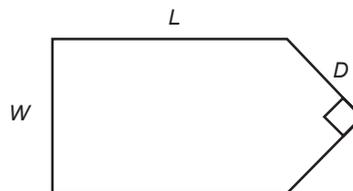

Figure P25
25. A fence around a field is shaped as shown in Figure P25. It consists of a rectangle of length L and width W and a right triangle that is symmetric about the central horizontal axis of the rectangle. Suppose the width W is known (in meters) and the enclosed area A is known (in square meters). Write a MATLAB script in terms of the given variables W and A to determine the length L required so that the enclosed area is A . Also determine the total length of fence required. Test your script for the values $W = 6$ m and $A = 80$ m².